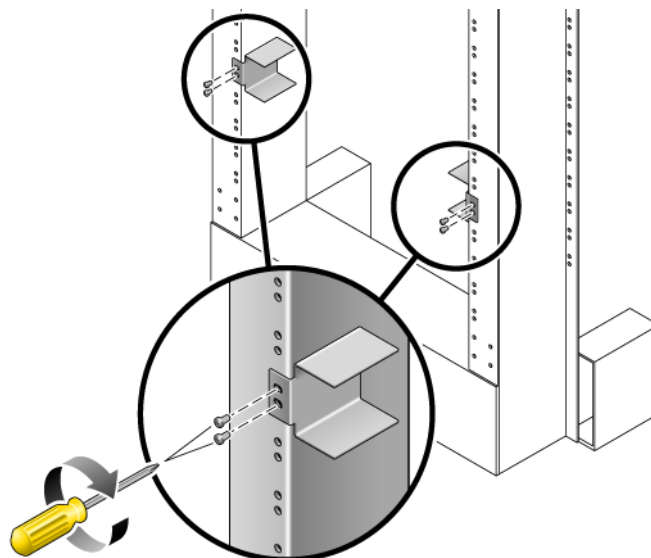

FIGURE 4-3 Installing the Rail Guides in the Rack
4. Lift the rail guides to the desired height in the rack and, using two screws each, secure both rail guides to the rack (FIGURE 4-3).